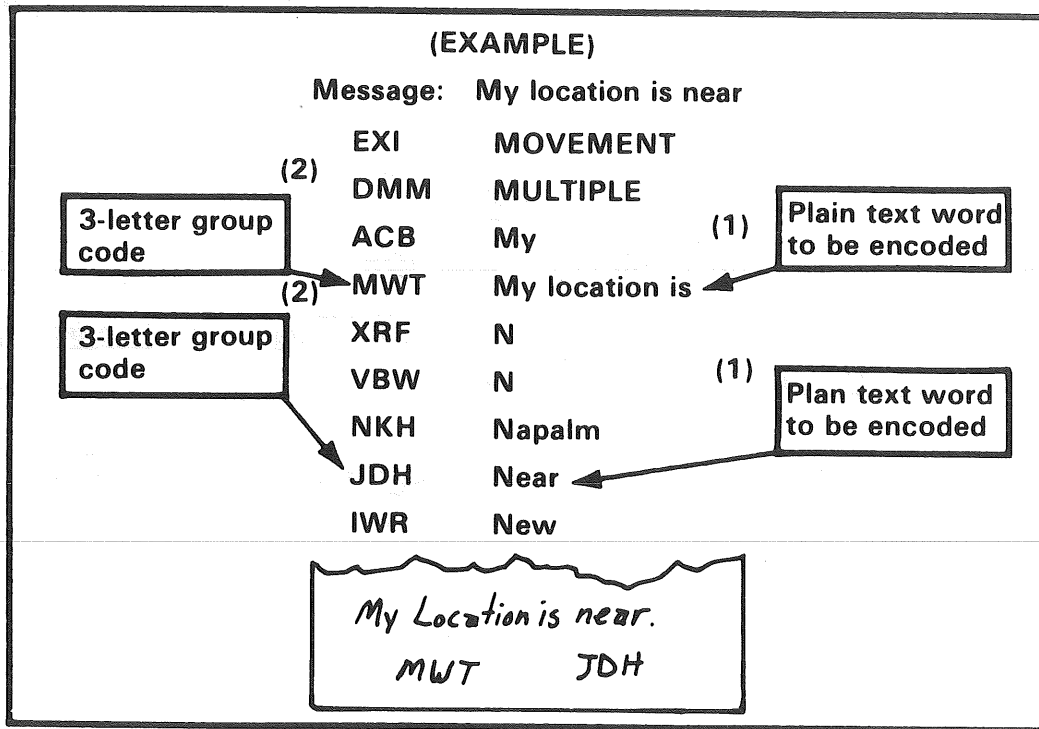

Figure 2. Sample Encode Page of KTC-600D.
- (1) Find the word or phrase to be encoded.
- (2) Identify the three-letter code group located to the left of that word or phrase.
- (3) Write the three letter code group on a separate sheet of paper.
- (4) Repeat this procedure until the whole message is recorded as shown in figure 2.